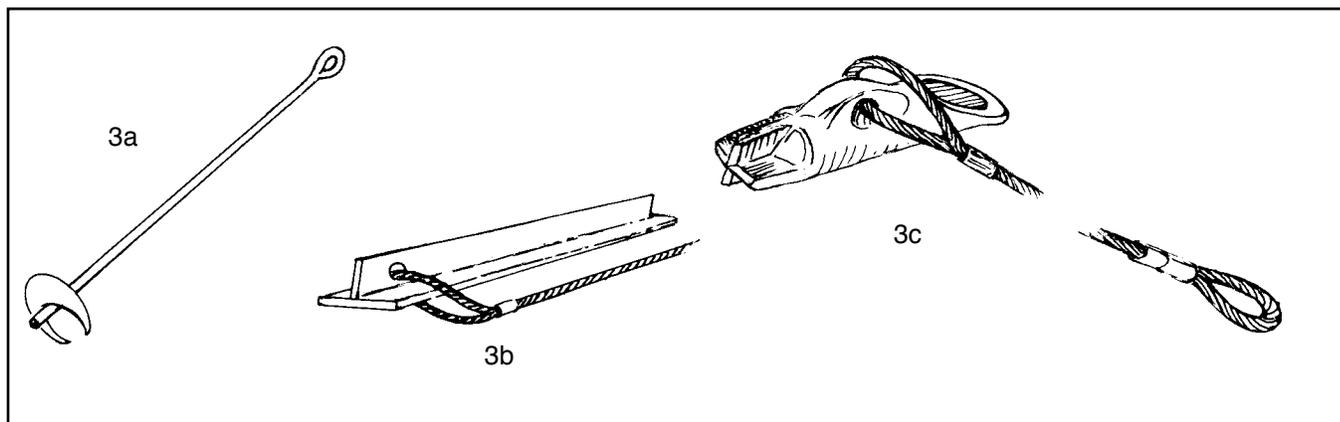

Figure 3. (a, b &c) Types of Anchors
- Disk anchors (Figure 3-a) are available at most hardware or farm supply stores. They are often used to tie down mobile homes. Use a model with at least a four-foot arm. Since they are screwed into the bank they are used in soils, preferably clays, where there are no rocks. At-
- T-posts (Figure 3-b) can also be purchased at farm supply stores. These fenceposts are best used on small streams. They can be driven all the way into even rocky banks with a sledge hammer or a T-post driver. Metal caps are available which make driving posts with a sledge hammer easier. Attach a cable to the end below the flange before driving it in.
- Duckbill earth anchors (Figure 3-c) are available from fencing vendors, and nursery and forestry suppliers. Duckbill anchors come in two sizes and are available with or without a cable attachment. The anchors are installed with a drive rod or rebar and can be driven into even rocky soils (see Figure 4). When the anchor is driven most of the way in, thread the wrapping cable through the cable attachment's top loop. Finish driving the anchor far enough into the streambank so that the cable attachment is no longer visible, generally about 2.5 feet. Then jerk the cable with a handyman jack or other type of lever system. This turns the anchor from the vertical to the horizontal underground. Many of the evergreen revetments built in Ohio are anchored with duckbills.